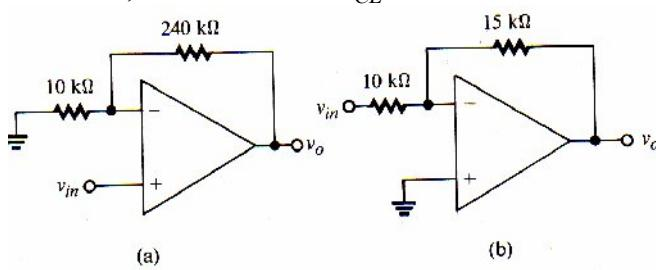

Figure 2-15 (Example 2-6)
Example 2-6. Each of the amplifiers shown in Figure 2-15 has an open-loop, gain bandwidth product ($A_0 f_c$) equal to 1×10^6 . Find the cutoff frequencies (f_c) in the closed-loop configurations shown.
1. In Figure 2-15(a), $\beta = R_f / (R_1 + R_f) = (10 \text{ k}\Omega) / [(10 \text{ k}\Omega) + (240 \text{ k}\Omega)] = 0.04$.
2. In Figure 2-15(b), $\beta = R_f / (R_1 + R_f) = (15 \text{ k}\Omega) / [(10 \text{ k}\Omega) + (15 \text{ k}\Omega)] = 0.4$.